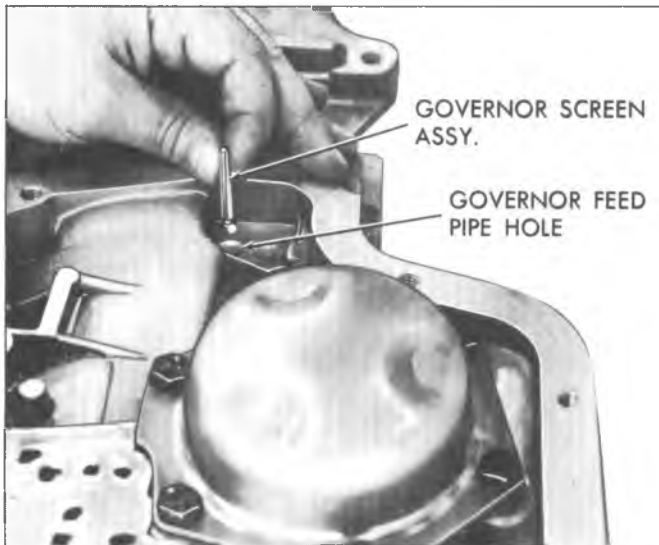

Fig. 5T—Governor Screen Position
4. Remove control valve body assembly and governor pipes. If care is taken in removing control valve body the six (6) check balls will stay in place above the spacer plate.
5. Remove the governor screen assembly from end of governor feed pipe or from the governor feed pipe hole in the case (fig. 5T). Clean governor screen in clean solvent and air dry.